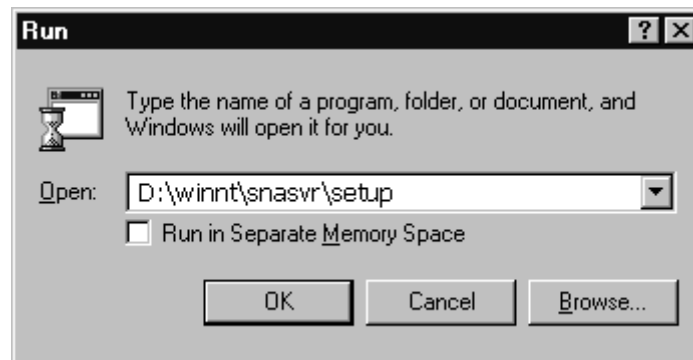

Figure 8-1. Starting Setup to Install a Data Link Service
1. Begin by pressing the **START** button on the Windows 2000 or Windows NT Server console. Select **Run**. Assuming your CD-ROM is the **d** drive, type **d:\winnt\snavr\setup** and press **OK**. (Figure 8-1).